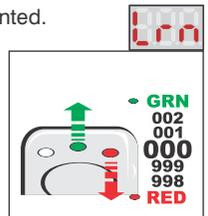

Fig 17
**NOTE:** The "ID Selection" symbol (Figure 17) appears in various levels of the menus described hereafter. This symbol indicates: